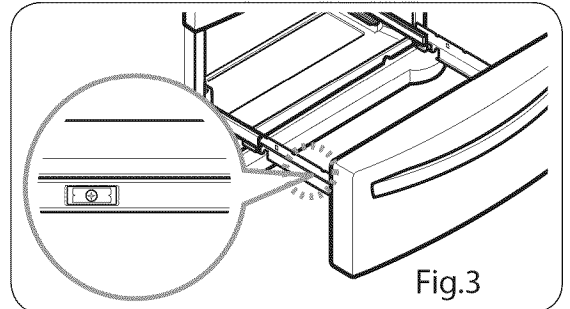

Fig.3
- Lower door into final position and tighten the screws. (Fig. 3)